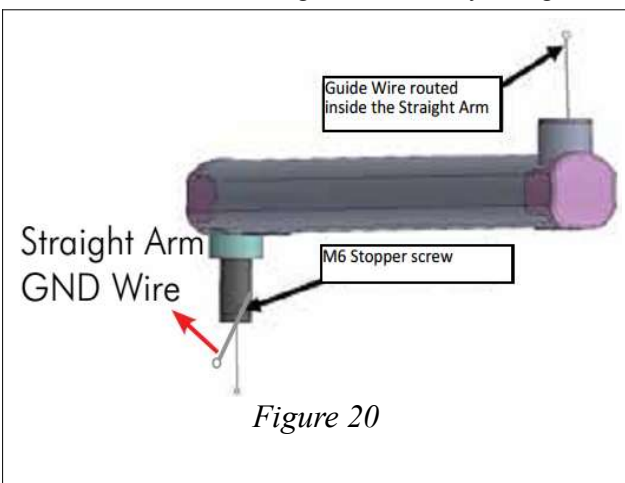

Figure 20
- Take the straight-arm and remove the M6 stopper screw using 5mm Allen key and keep it separately Figure 20 .